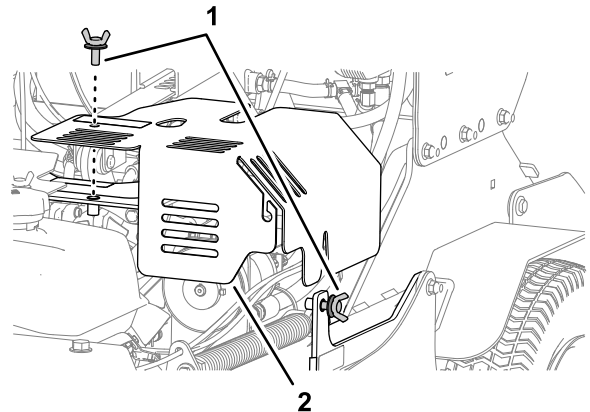

Figure 50
2. Remove the top thumbscrew, loosen the side thumbscrew, and remove the left hydraulic compartment cover (Figure 50).
- Align the hole and slot in the left hydraulic compartment cover with the supports of the machine and secure the cover with the 2 thumbscrews (Figure 50).